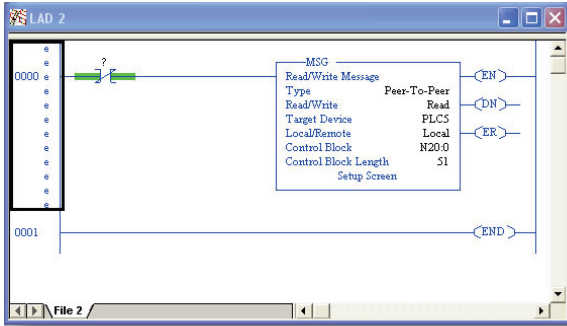

Figure 84: PLC Program after MSG Instruction Configuration
- f) Close the dialog box. At this point, the program should appear as shown in Figure 84.